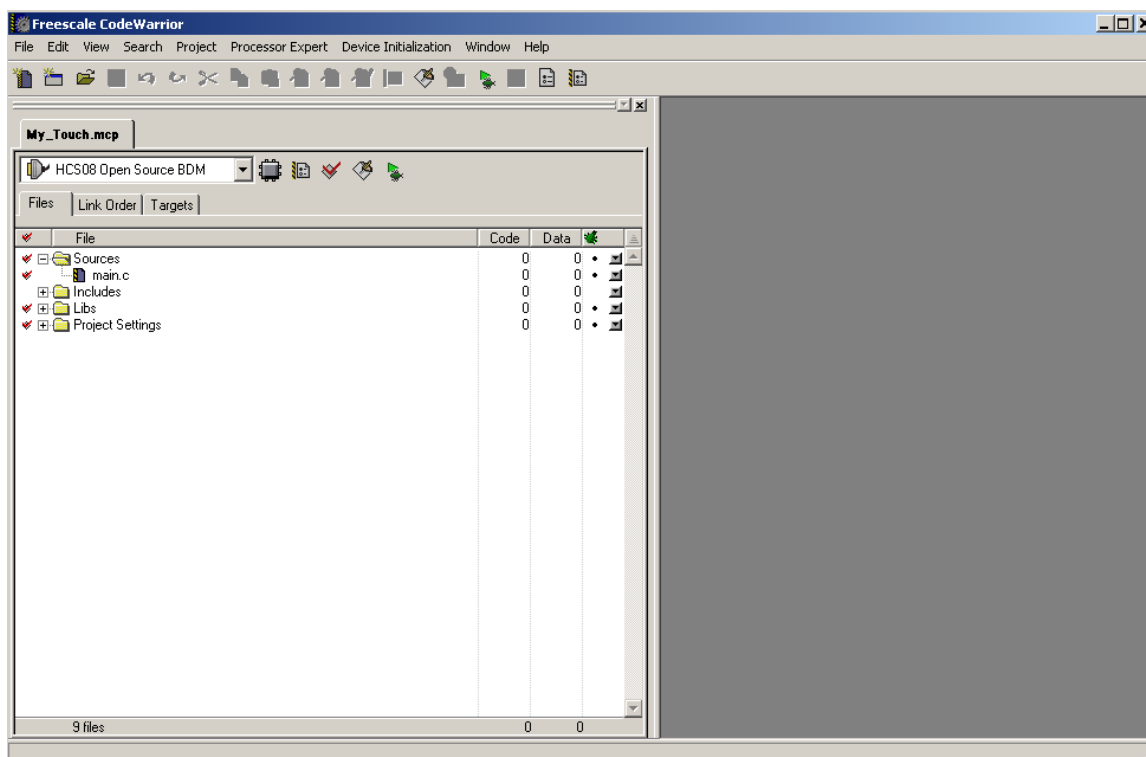

Figure 8. Freescale CodeWarrior window
6. After a few moments, the screen appears as shown in Figure 8. The red check marks indicate that the project has not been compiled. Go ahead and build the project by pressing **F7**, click the **Make** icon  or **Project > Make**. You should receive no errors and warnings. The red check marks must disappear. The program does not do anything useful, but you can examine main.c by double-clicking file name.